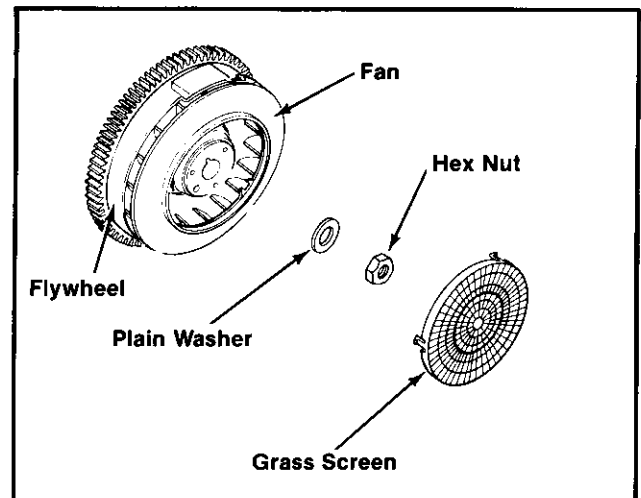

Figure 10A-23. Removing Grass Screen And Flywheel - Electric Start Models.
2. Hold the flywheel with strap wrench and loosen hex nut (refer to Figure 10A-19). Remove the hex and plain washer.